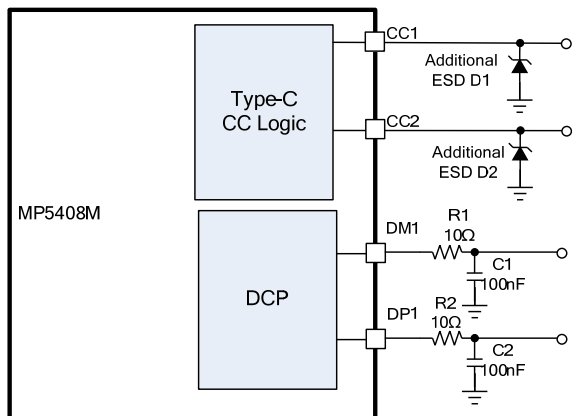

Figure 11: Recommended I/O Pins ESD Enhancing
Higher ESD levels should be considered for all USB I/O pins. The MP5408M features high ESD protection up to ±8kV human body model on DP, DM, USB1, and USB2, and ±5.5kV human body model on CC1 through CC4. The ESD structures can withstand high ESD both in normal operation and when the device is powered off. To further extend DP and DM's ESD level for covering complicated application environments, additional resistors and capacitors can be added (see Figure 11).
11) See Figure 11 for I/O pins' ESD protection enhancing details.